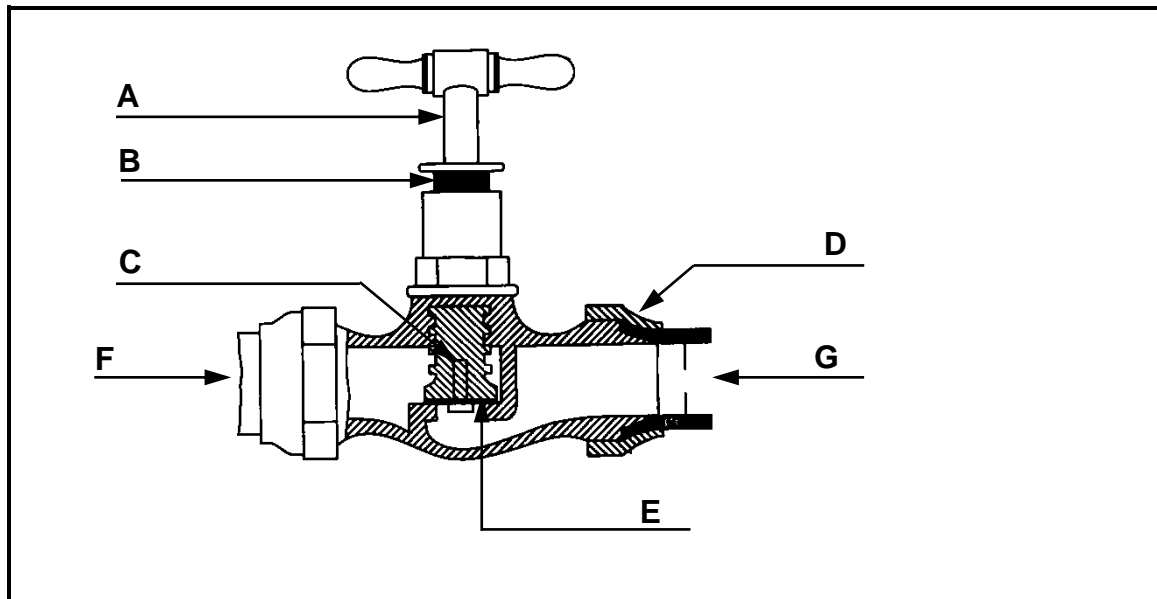

FIGURE 4.2
- 4.2 Answer the following questions with regard to the tap in FIGURE 4.2.